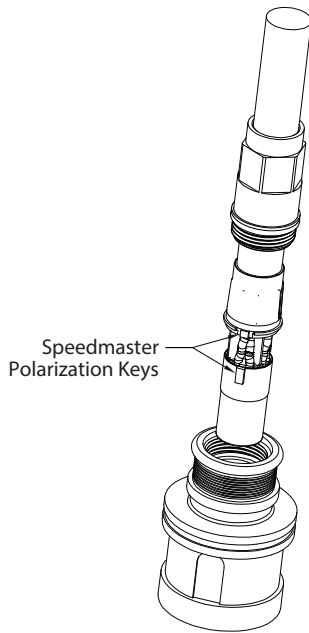

FIGURE 1
- Slide completed SpeedMaster into the contact cavity, making sure to align the SpeedMaster's polarization keys with the contact cavity keyway. (Figure 1)